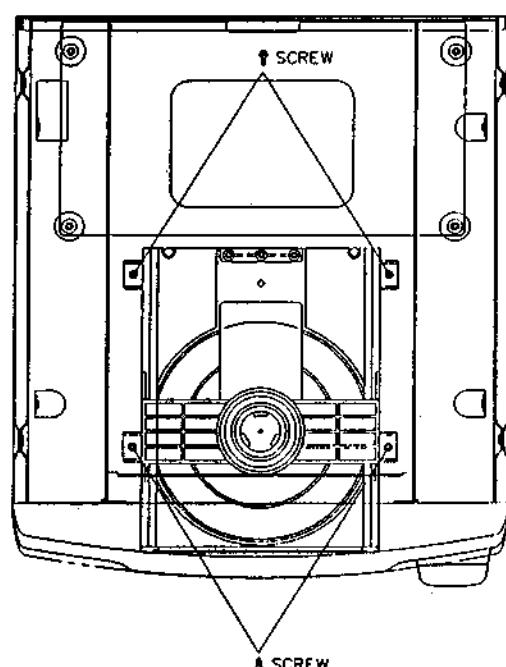

Fig. 2
- 1) Remove the four retaining screws, then remove the CD mecha. unit (fig 2)